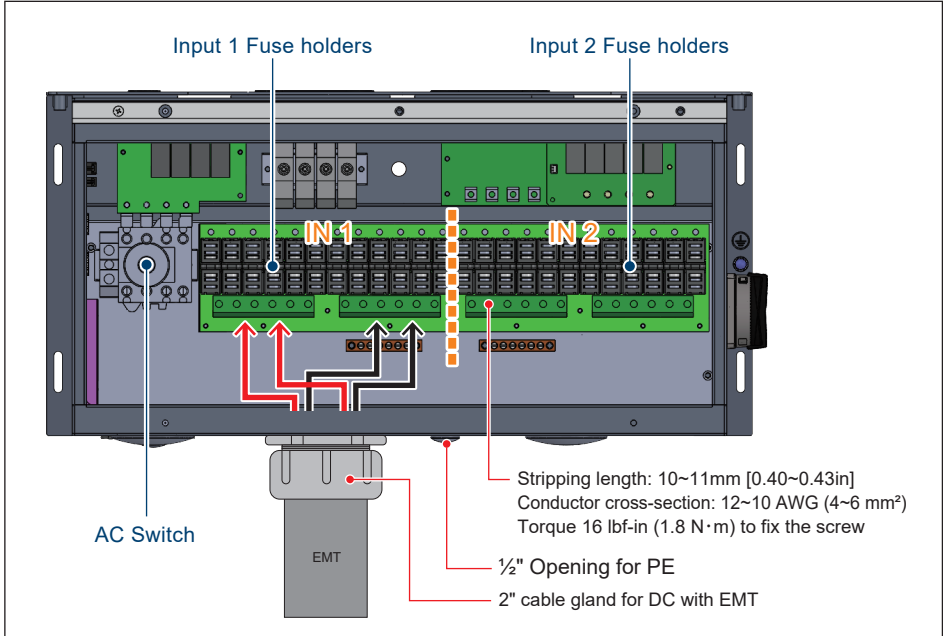

Figure 3-19: Location for DC terminals for 120 models
- Two 2" chassis access holes (KOs) can be utilized to connect conduits from PV array DC wiring into the inverter, as shown in **Figure 3-19**.